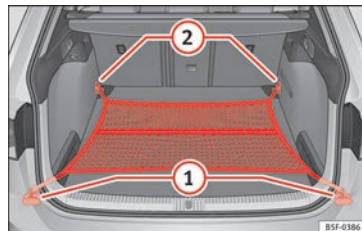

Fig. 177 In the luggage compartment: net bag hooked up at floor level (LEON ST model).
- As applicable, lift the front fastening rings » **Fig. 177 (2)**.
- Secure the net hooks to the fastening rings (2) » **⚠**. The bag zip should be facing upwards.
- Secure the net hooks to the fastening rings (1).